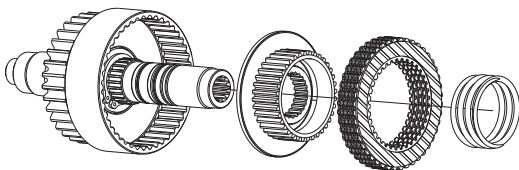

Figure 7 – Output Shaft Component's Removal
11. Tap the piston cup (18) on a wood surface to remove the piston (16).
12. Remove the spring (14). The clutch friction discs (12), spacer discs (13) and clutch hub (11) can be removed by pointing the shaft end down. *See Figure 7*